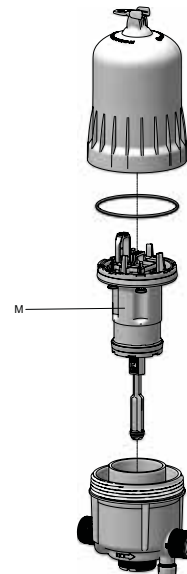

Fig. 29
- Unscrew the cover manually (Fig. 29) and remove it.